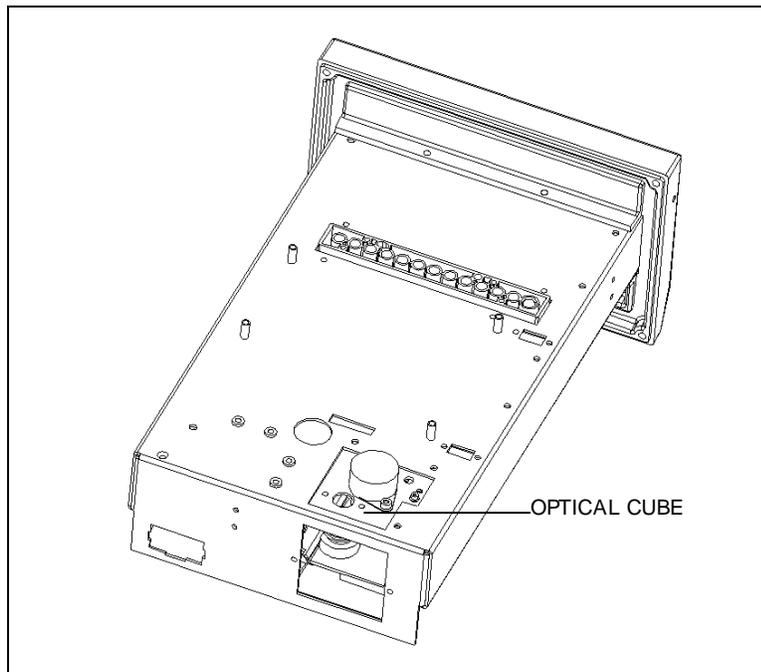

Figure 11-24 Optical Cube and Chassis
- 3 Pull the stepper motor and filter switch wires through the hole in the base and remove the cube (Figure 11-24).